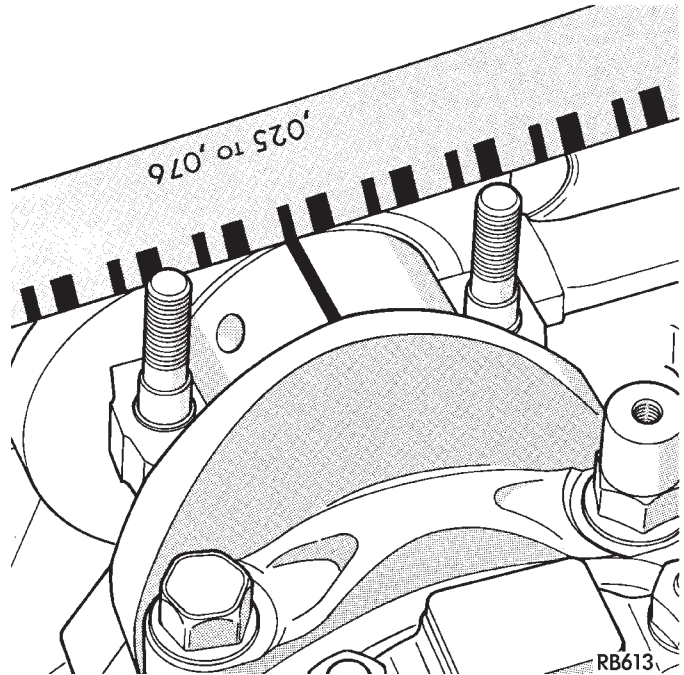

Fig. 10 Checking Connecting Rod Bearing Clearance
(1) Follow procedure specified in the Standard Service Procedure Section for Measuring Main Bearing Clearance and Connecting Rod Bearing Clearance (Fig. 10).